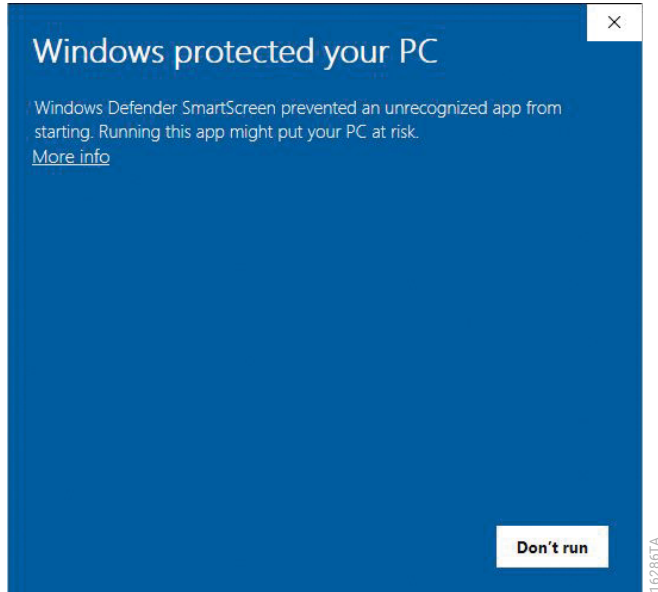
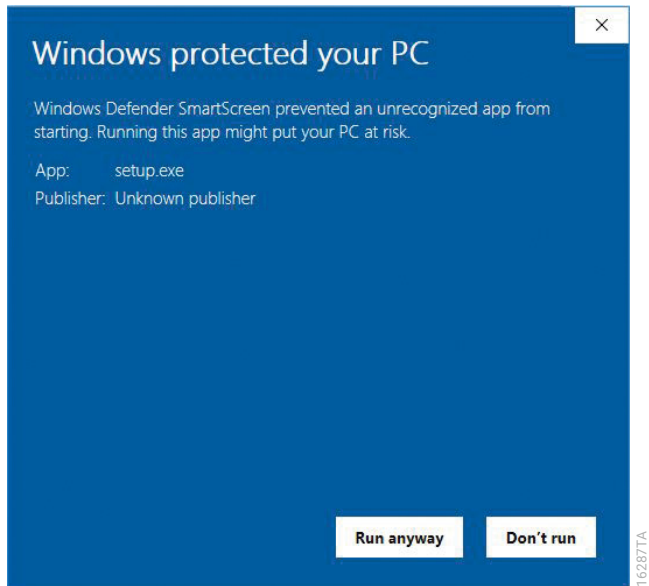

Figure 219. Windows® 10 Warning Window.
Figure 220. Windows® 10 Warning Window: Run Anyway.
2. Run the setup.exe application by right clicking on the setup.exe application and “Run as administrator” to initiate installation. A warning screen may appear, depending on the operating system (Figure 219, example from Windows® 10 operating system). Select **More info** and then **Run Anyway** (Figure 220).